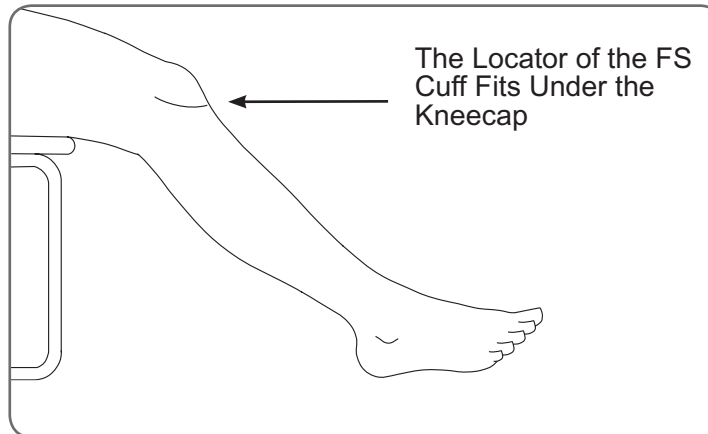

Figure 4: Recommended knee angle for positioning the FS Cuff.
3. While seated, slightly straighten your leg as shown in Figure 4. The outline of your kneecap should be clearly defined. (Place your foot on a footrest, if necessary.)